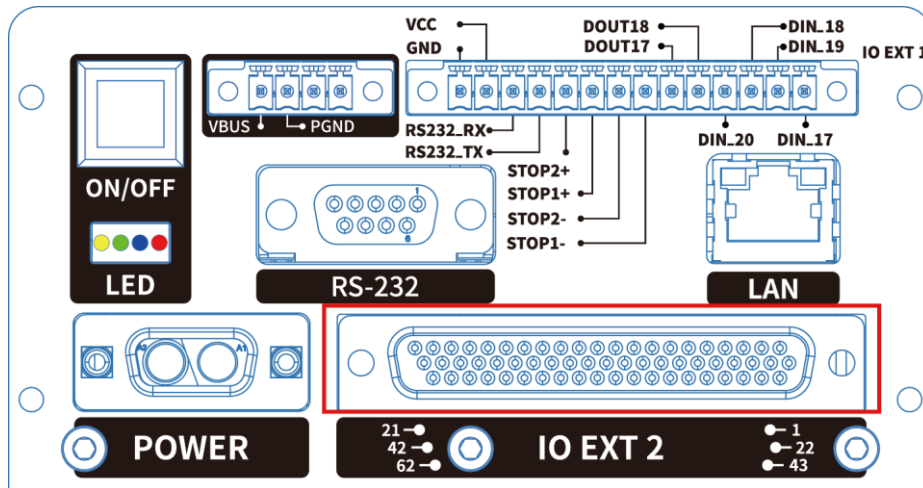

Figure 6.58 Connect to external expansion I/O interface
Step 1 Connect one end of the DB62 cable to the external expansion I/O interface on the base of Dobot M1 and the other end to the expansion board, as shown in Figure 6.58.